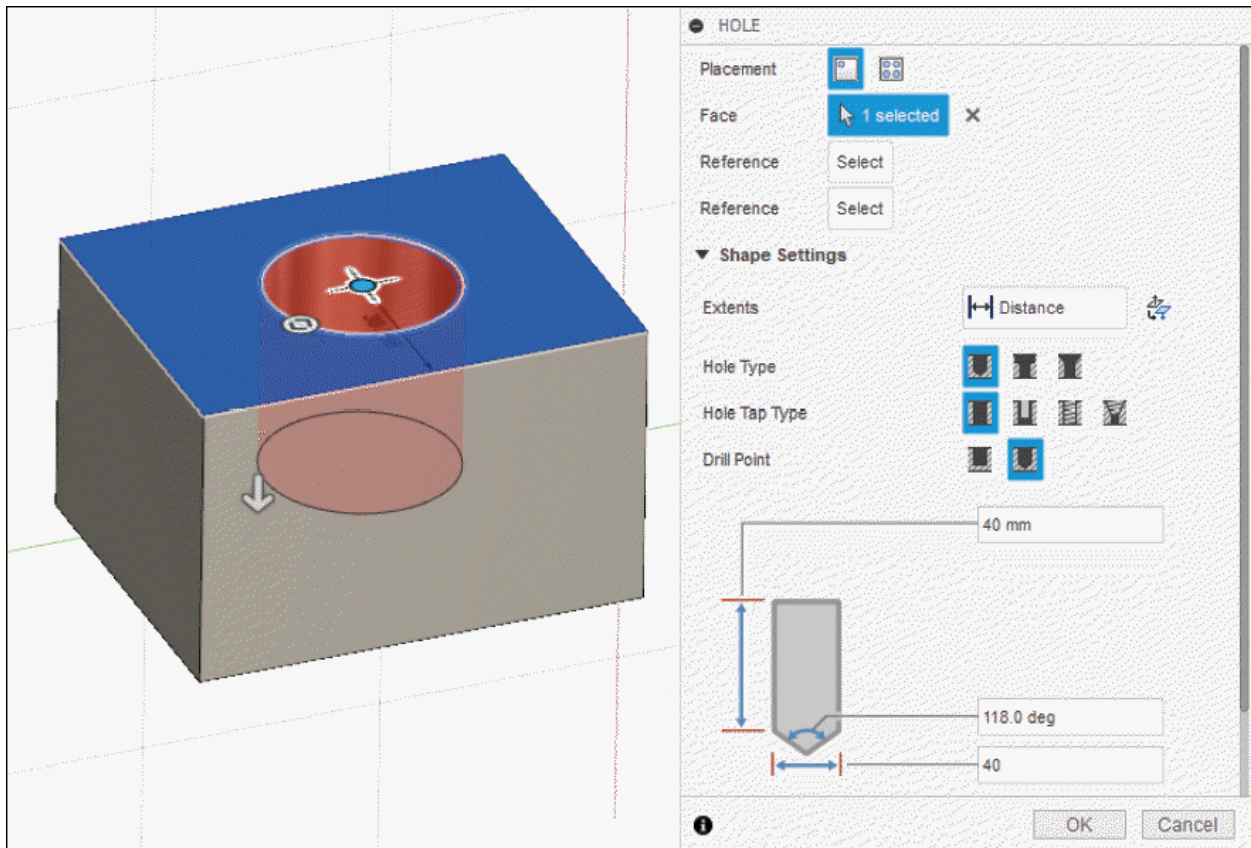

Figure-42. Updated HOLE dialog box
- Select the face/plane on which you want to create hole. The updated **HOLE** dialog box will be displayed with preview of hole; refer to Figure-42.